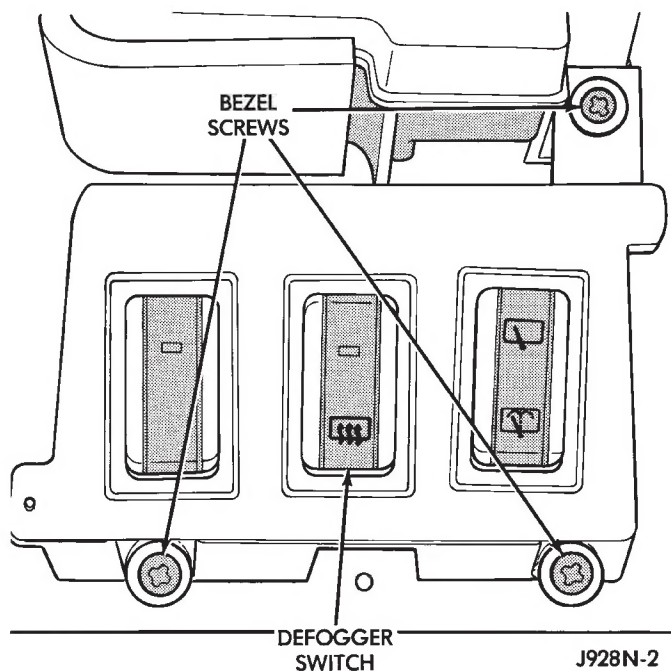

Fig. 4 Defogger Switch Remove/Install—YJ
(2) Slide bezel toward the steering wheel.
(3) Remove 3 screws (Fig. 4).
(4) Unplug the connector from the defogger switch.
(5) Squeeze the ends of the switch to release the plastic retaining fingers and push outward.
(6) Reverse removal procedures to install.